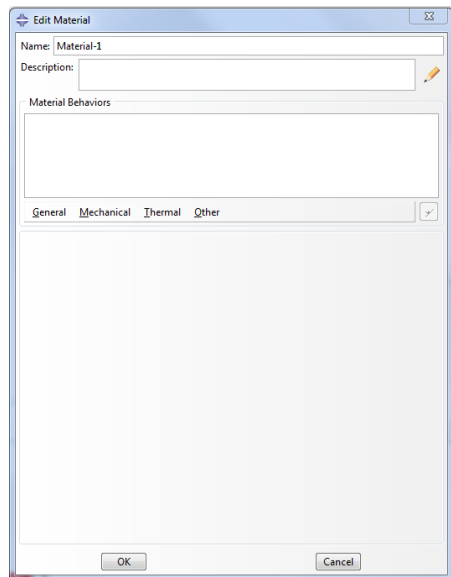
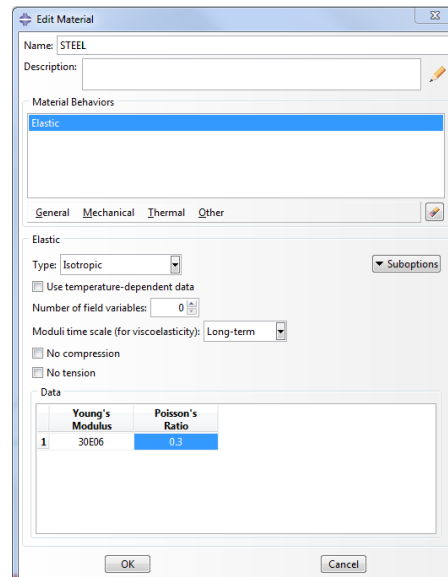

Figure 6a. Edit Material Dialog Box
Figure 6b. Edit Material Dialog Box (STEEL)
- To define material properties for this model, double click on **Materials** in the model tree and the **Edit Material** dialog box will appear (Figure 6a). Enter a **Name** for the material (STEEL), and click the **Mechanical** tab, highlight **Elasticity** and click **Elastic**. Enter values of **Young's Modulus** = 30E06 psi, and **Poisson's Ratio** = 0.3. After the material properties have been entered, the **Edit Material** dialog box should look identical to Figure 6b.